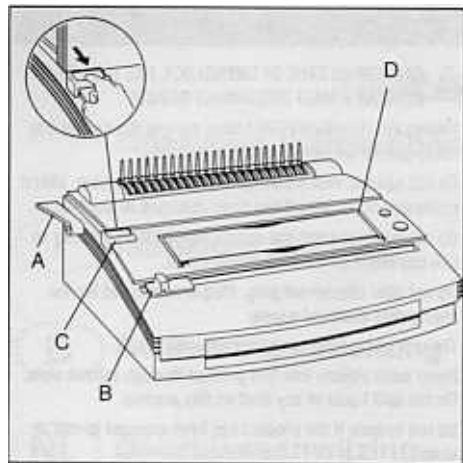

Figure 1
1. Firmly push the female end of the power cord into the power cord receptacle (A) located on the back of the machine (see figure 1).
1. Set Edge Guide (B) to paper size you wish to bind (11", 8-1/2" letter size, 11-1/4" oversized cover, A4 ring, A5, Japan A4) (see figure 1). When using oversized covers, set the Edge Guide on Covers, punch all of the covers for your job and set aside. Move the Edge Guide back to the 11" setting to punch your contents then bind.
1. Slide the Binder Sizer open (C) (see figure 1).